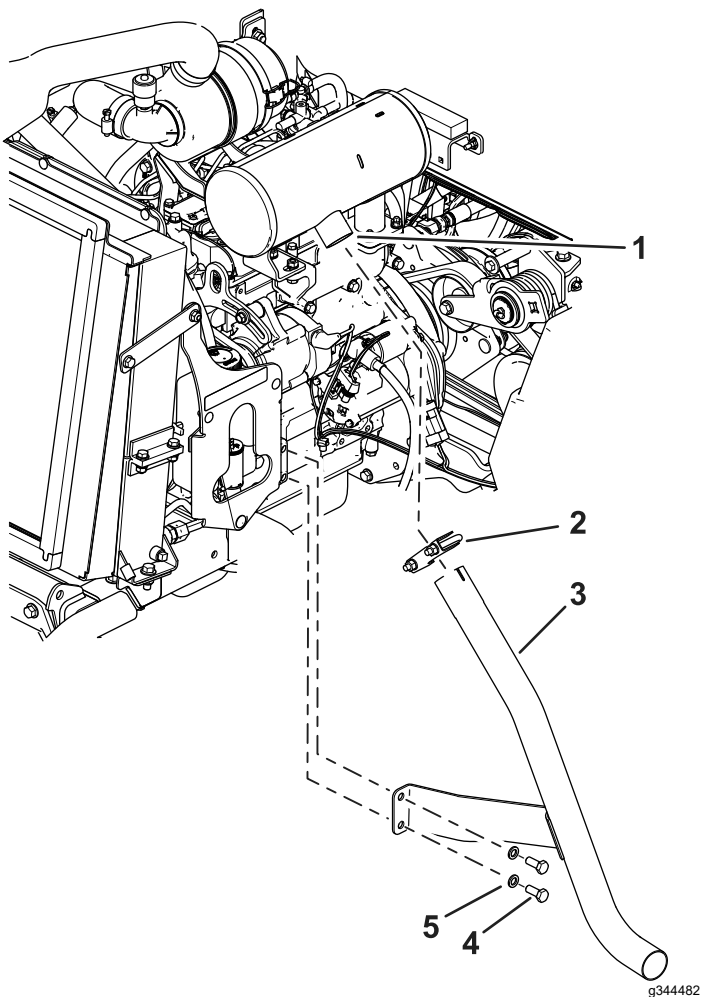

Figure 6
- Loosen the clamp at the muffler (Figure 6).
- Remove the engine bolts and washers from the existing exhaust pipe support (Figure 6) and remove the exhaust pipe.